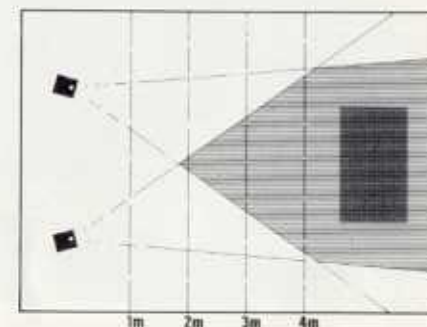

fig. 9
A typical listening room with suggested positions of the loudspeakers for initial listening tests, is shown in Fig 9, with the preferred listening area shaded. On initial installation of the loudspeakers, it is advisable to allow long, flexible audio connections for free movement of the speakers during listening tests.
- iii The listening position will also influence apparent bass performance. The darker area marked in Fig 9 is normally preferable to the extreme boundaries of the listening area.